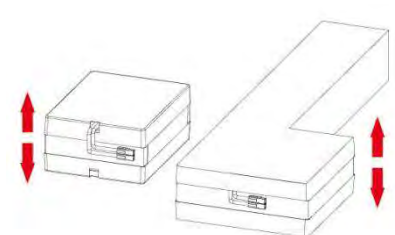

Fig. 9
9. Remove the top cover of the battery box, replace the batteries inside (fig. 9).